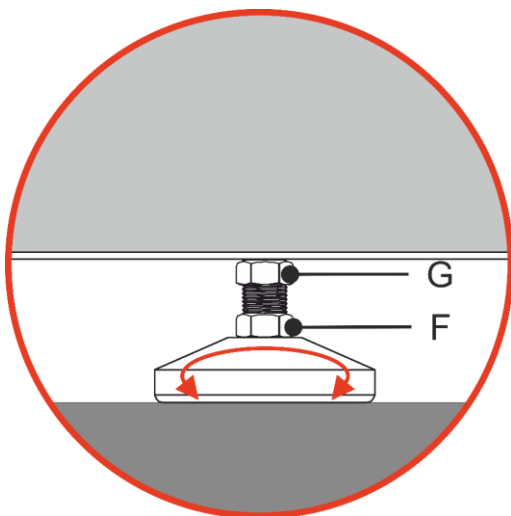

Fig. 25
- 01) Turn screw F of the **adjustable feet (08/12)** clockwise or counterclockwise to adjust the length of the feet, as shown in Fig. 25.